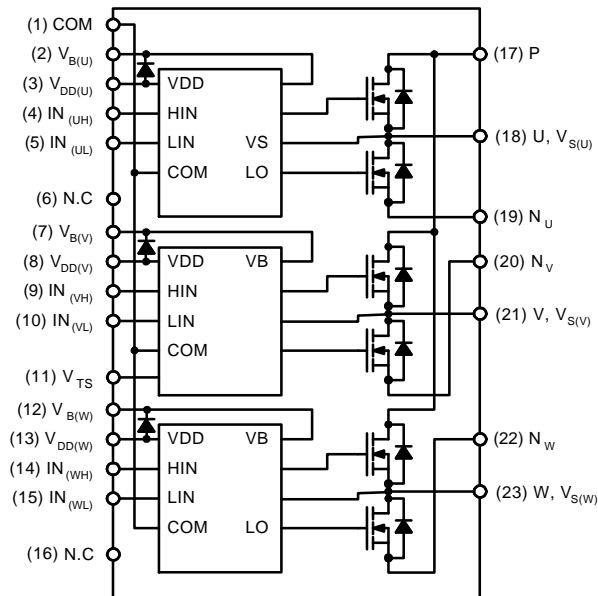

Figure 2. Pin Configuration and Internal Block Diagram (Bottom View)
- Built-in bootstrap diode includes around  $15\ \Omega$  resistance characteristic. Please refer to Figure 2.